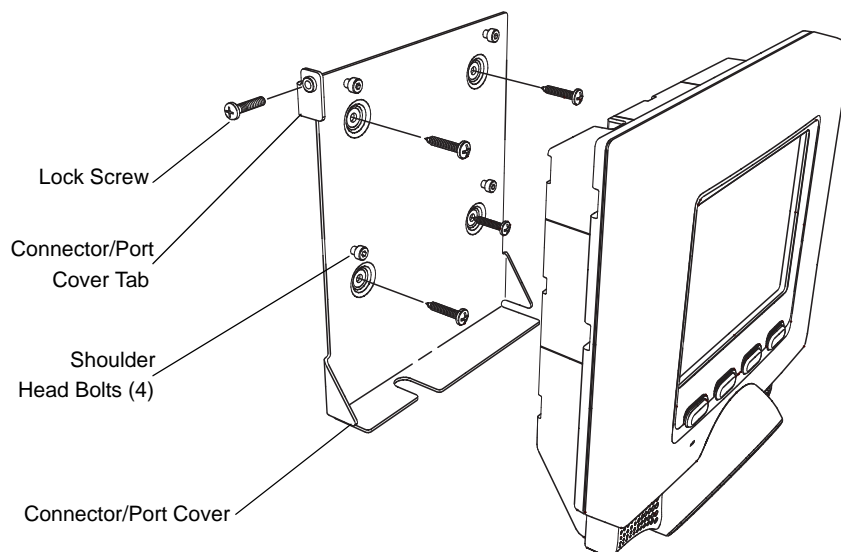
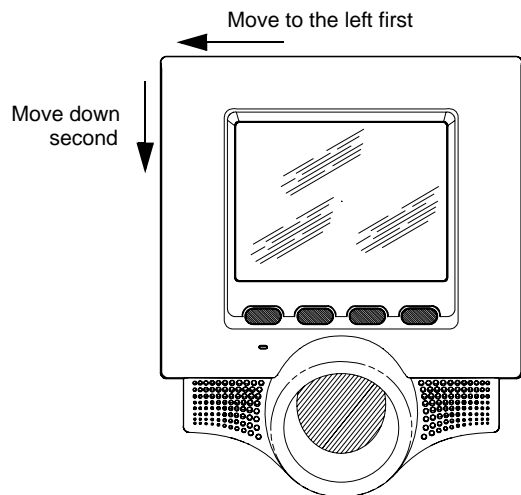
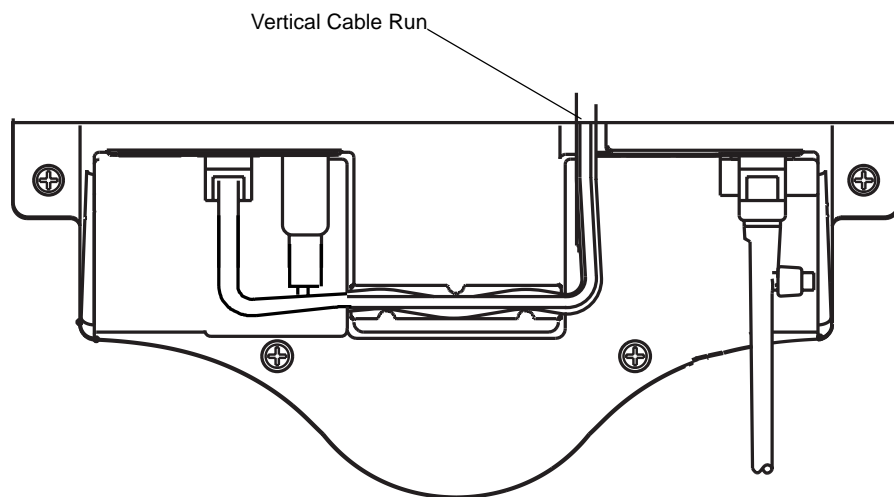

Figure 2-2 Wall Mounting Kit
Figure 2-3 *Mounting Directions*
Figure 2-4 *Cable Routing*
3. Connect the cables to the MK1200 (see Figure 2-3 on page 2-5) and ensure the cables are routed and secured correctly (see Figure 2-4 on page 2-5). Cables incorrectly mounted or secured can become pinched when the MK1200 is attached to the Connector/Port Cover.
2. Place the back housing into the opening, following the instructions in Using the Wall Mount Kit on page 2-4. See Figure 2-2 and Figure 2-3 on page 2-5. Symbol does not provide hardware to support this installation.
4. Position the MK1200 keyholes located on the back housing (see Figure 2-2 on page 2-4) over the shoulder head bolts and slide the MK1200 to the left and down to secure in place. See Wall Mounting Kit on page 2-4 and Mounting Directions on page 2-5.